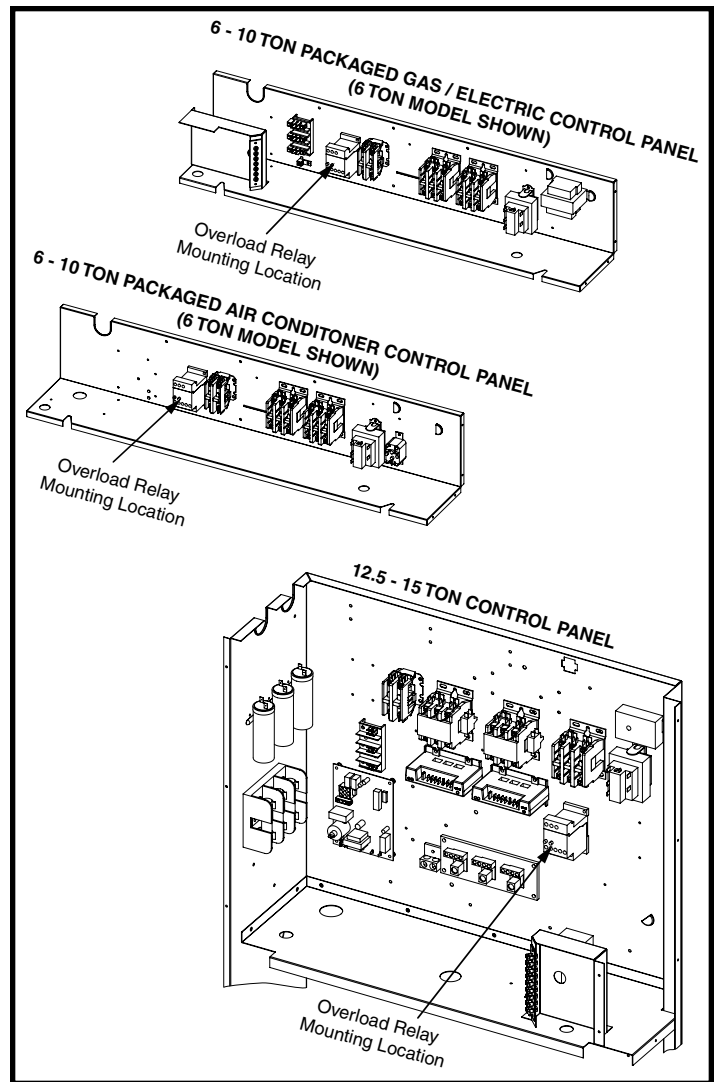
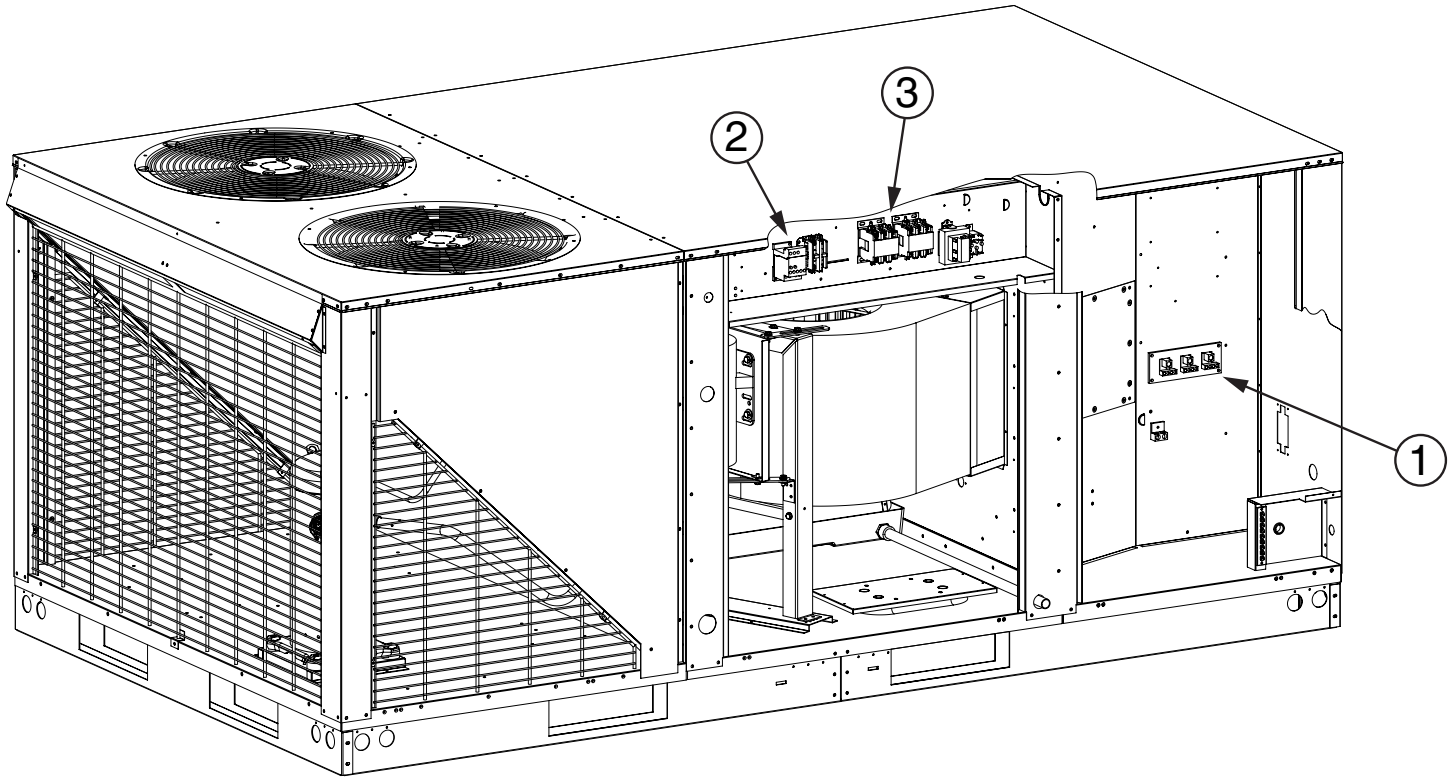

Figure 1. Overload Relay Mounting Locations
Figure 3. External Motor Overload Wire Routing - 6 Ton Units
- For HSD kits that include external motor overloads see Figures 3 & 4 (pages 6 & 7) for proper wiring routing and connections.
5. Locate and install the motor overload relay (if required) using mounting holes and provided screws (see Figure 1, page 5). Route power wires as shown in Figures 3 & 4.
P6SP Series - 072 Units (Figure 3)
R6GP Series - 072 Units (Figure 3)